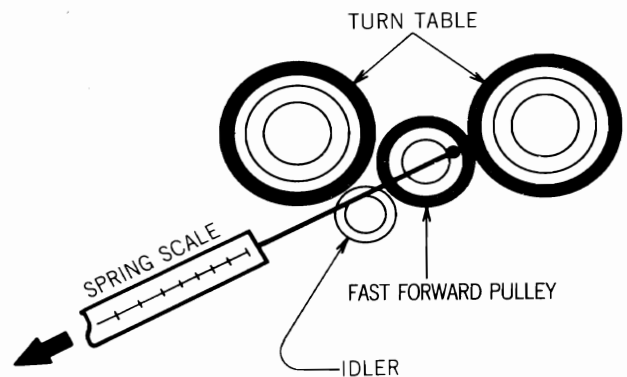

Fig. 8
- ① In REW. mode, hook a spring scale to the fast forward pulley as shown in Fig. 8.
- ② Stop the rotating of motor and take a reading only when the fast forward pulley is pulled backward by the spring scale.
- ③ The reading should be 90 to 200g.